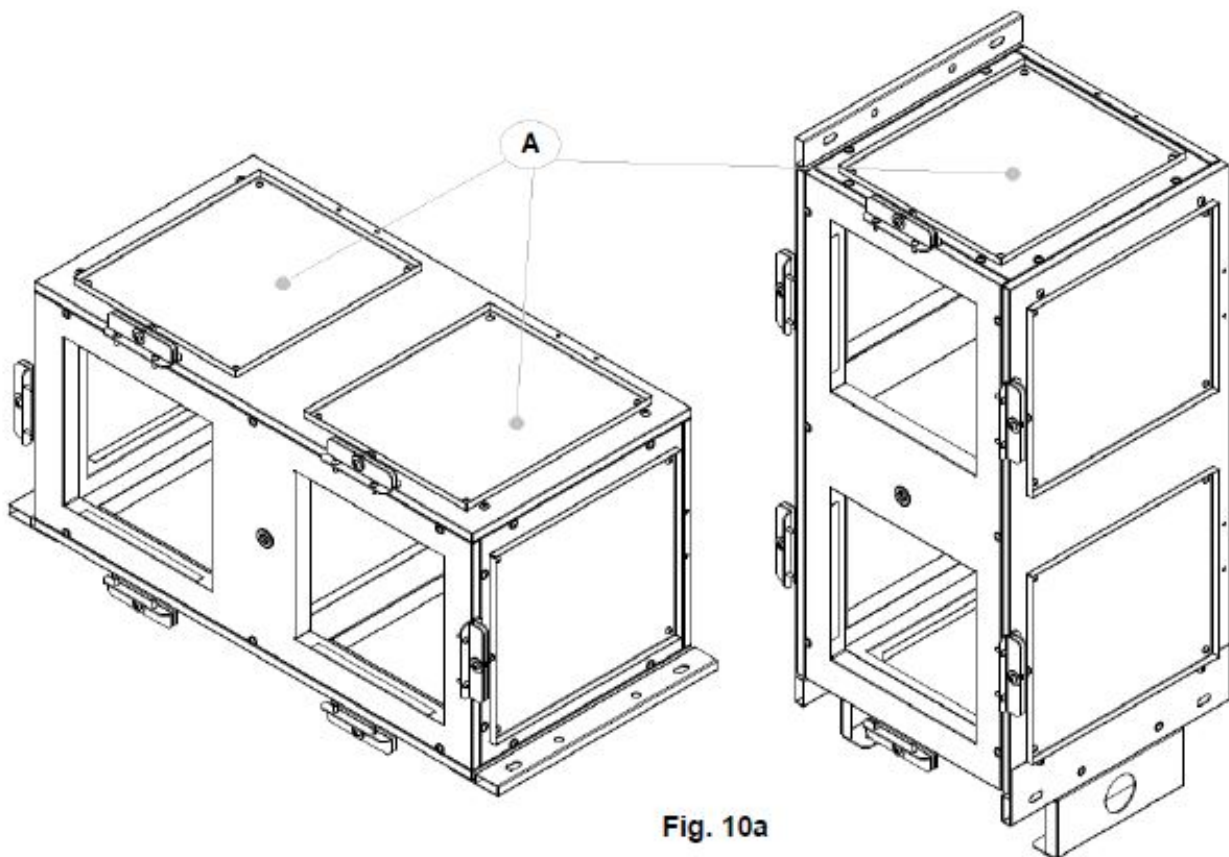

Fig. 10a
- PLM plenum is provided with n°10 possible air connections of which n° 6 closed by insulated plates (A) fixed by selfdrilling screws, as shown on fig. 10a.